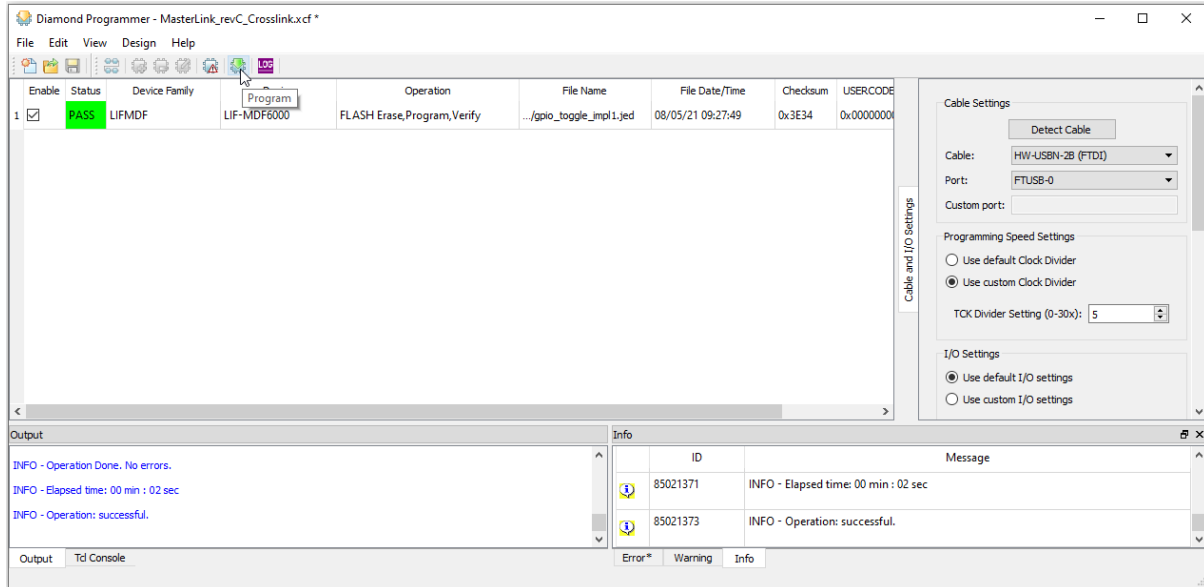

Figure 5.2. Diamond Programmer
3. The Diamond Programmer interface opens, as shown in Figure 5.2. Double-click the **Operation** field.
6. To program the *.jed* file, click the **Program** button in Diamond Programmer, as shown in Figure 5.2. If successful, the **Status** column shows **PASS**. The **Output** pane also shows **INFO – Operation: successful**.